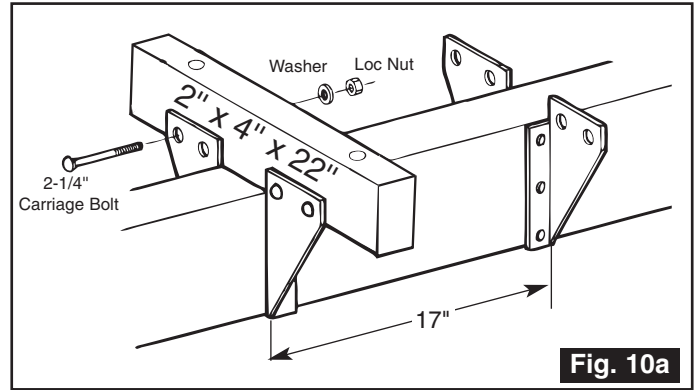
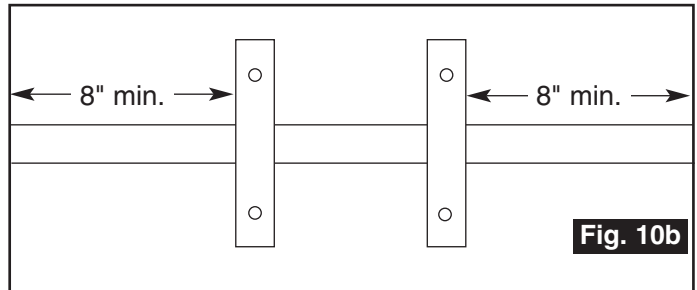

Fig. 10a
Fig. 10b
2. Position four beam brackets (right and left) in position on beam making certain the outside of the braces are 17" apart and the nailing edge of the bracket is flush with the top of the beam **(Fig. 10a)**. **Note:** 2 For Fun Beam Brackets must be placed a minimum of 8" from any adjacent structure or accessory **(Fig. 10b)**. Attach using three 2-1/2" screws per bracket.
4. Center supports across beam, mark and drill 3/8" holes **(Fig. 10a)**. Attach using two 2-1/4" Carriage bolts, 5/16" flat washers and loc nuts per bracket **(Fig. 10a)**.